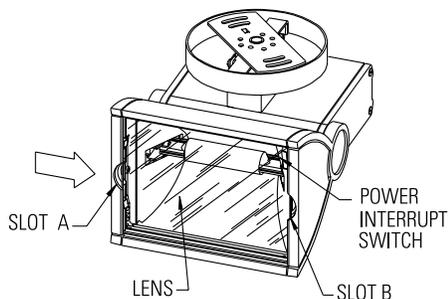

FIG. 5
2. Remove the LENS by inserting finger into SLOT A and pressing the LENS in the direction of SLOT B (See FIG. 5).
WARNING: IF USED IMPROPERLY, THIS LAMP CAN CAUSE SERIOUS SKIN BURN AND EYE INFLAMMATION FROM SHORTWAVE ULTRAVIOLET RADIATION. DO NOT OPERATE FIXTURE WITHOUT PROTECTIVE LENS IN PLACE. FIXTURE IS EQUIPPED WITH A POWER INTERRUPT SWITCH TO PREVENT LAMP FROM BEING ENERGIZED WHEN LENS IS REMOVED (SEE FIG. 5). DO NOT ATTEMPT TO DISABLE THIS DEVICE.